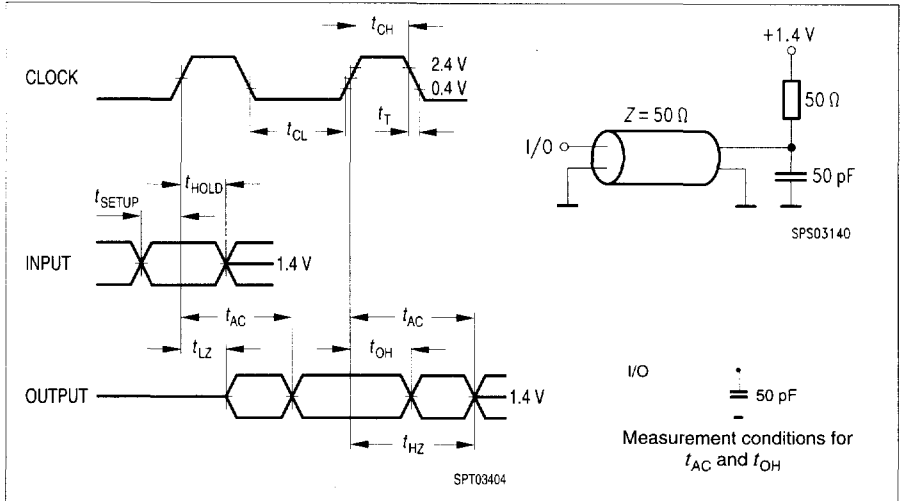

Figure 1
2. AC timing tests for LV-TTL versions have $V_{IL} = 0.4\text{ V}$ and $V_{IH} = 2.4\text{ V}$ with the timing referenced to the 1.4 V crossover point. The transition time is measured between V_{IH} and V_{IL} . All AC measurements assume $t_T = 1\text{ ns}$ with the AC output load circuit shown in **Figure 1**. Specified t_{AC} and t_{OH} parameters are measured with a 50 pF only, without any resistive termination and with an input signal of 1 V/ns edge rate between 0.8 V and 2.0 V.